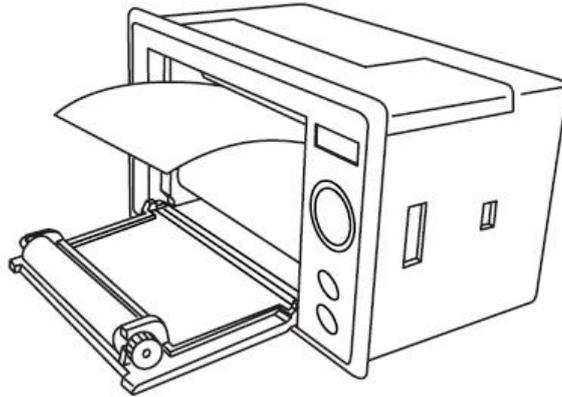

Figure 6.2 Install new scroll
(2) Install the new scroll, see Figure 6.2.